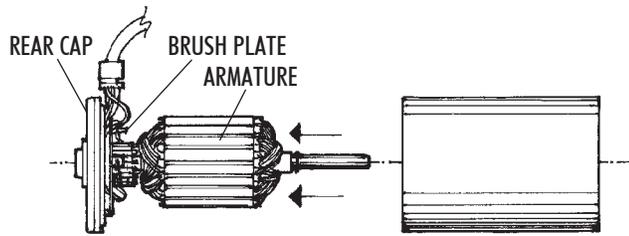

FIGURE 2—The end cap and armature are removed from the motor case.
4. Push the armature and rear cap from the motor body (See Figure 2).